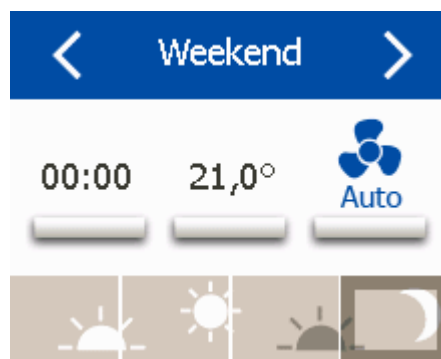

Fig. 95: Setting the weekend
- 14.▶ Go to the 'Weekend' screen (Fig. 95).